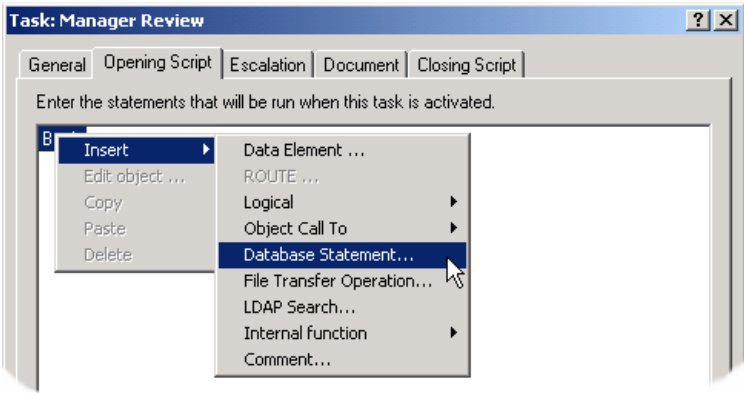

Figure 36-1. Selecting **Database Statement...** is the first step in interfacing your task with a database.
- 1 Click on any task, click on the Opening or Closing Script tab, then right click on the Begin statement and choose **Database Statement** from the **Insert** drop-down menu.(see Figure 36-1, below).